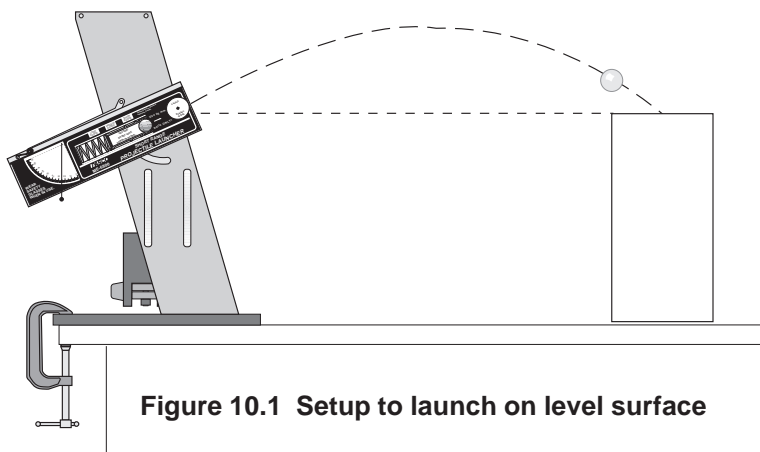

Figure 10.1 Setup to launch on level surface
- ① Clamp the Projectile Launcher to a sturdy table near one end of the table with the launcher aimed so the ball will land on the table.
- ② Adjust the angle of the Projectile Launcher to 30 degrees.
- ③ Put the steel ball into the Projectile Launcher and cock it to the medium or long range position.
- ④ Launch a ball to locate where the ball hits. Place an inverted box at that location so the ball will hit at the same level as the muzzle of the launcher. See Figure 10.1.